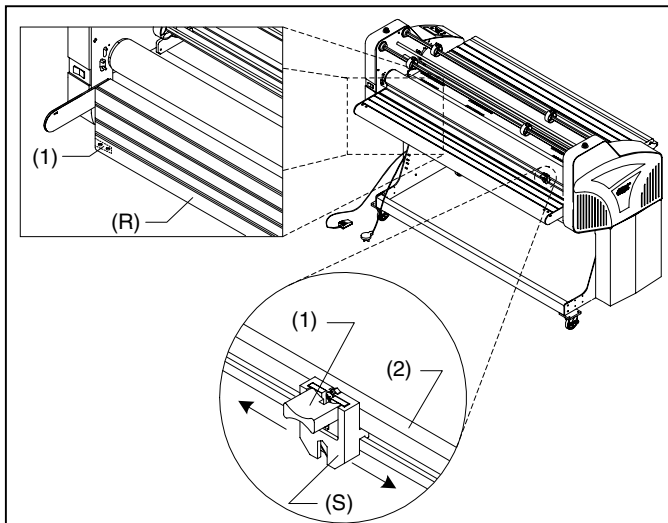

Fig. 20
R. REAR TABLE: (Figure 20) Provides a working surface when operating the machine from the rear. This table may also be lowered when webbing for roll to roll applications.